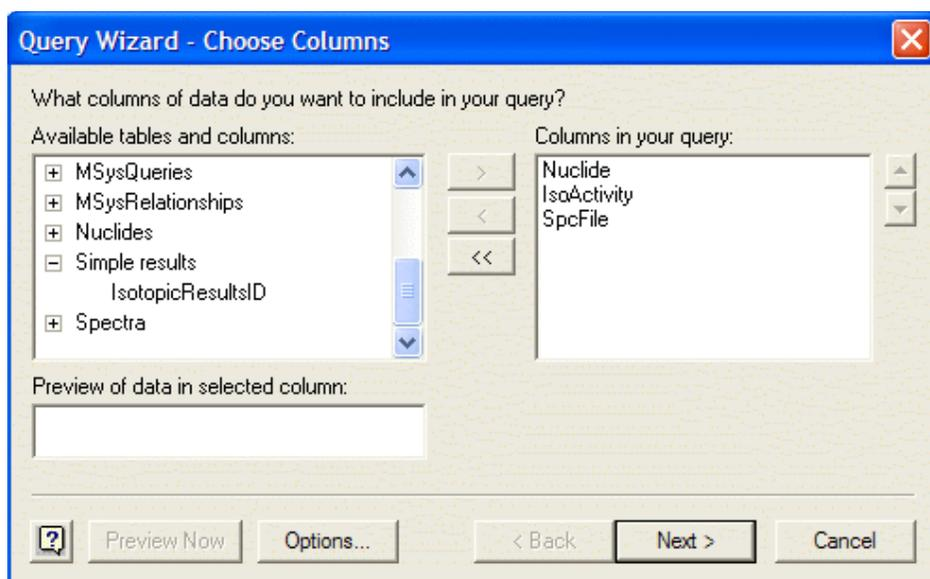

Figure 262. Select the Fields to Be Used in the Excel Query.
- Select the Nuclide, IsoActivity, and SpFile fields, as shown in Fig. 262.